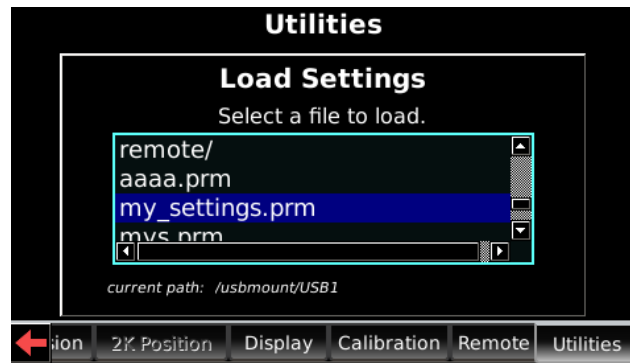

Figure 2-57 System/Utilities/Load Settings/Select a File to Load
2. Press **ENTER** to display the files on the USB device, use the arrow keys to select the settings file (see Figure 2-57), then press **ENTER** again to load the settings. Settings files have a .prm file extension.